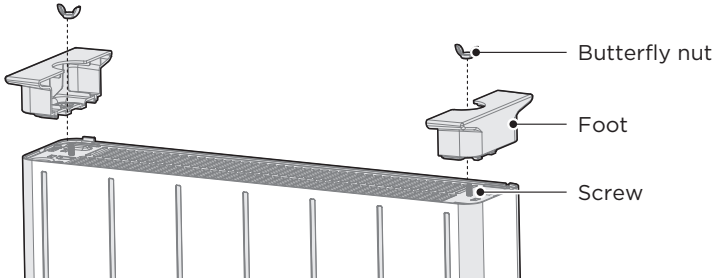

Figure 1
- 2 Remove the feet from the packaging. Align the hole in the foot with the screw and push gently until it clicks into place. (Figure 1)